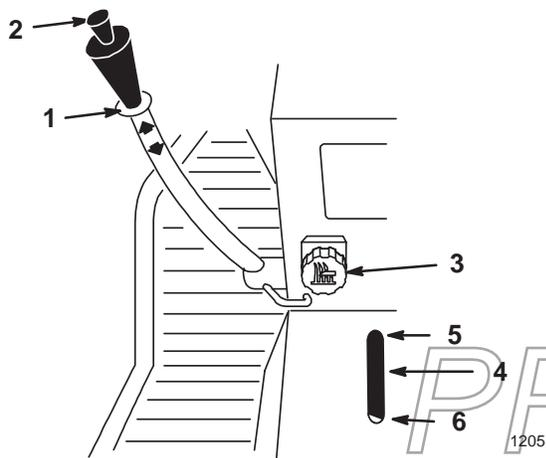

Figure 18
The attachment lift lever (Fig. 18) is used to raise and lower various attachments.
The Dial-A-Height control (Fig. 18) is used to limit the downward travel of the attachment. The Dial-A-Height knob is rotated to change the location of this stop, up or down.
1. Raise the attachment lift lever: Refer to Raising Attachments. In the raised position the Dial-A-Height knob (Fig. 18) can be rotated to change the stop location. Turn clockwise to raise and counterclockwise to lower the height of the attachment.
2. The Dial-A-Height indicator (Fig. 18) will show the change, high to low, in attachment lift height as adjustment is made.